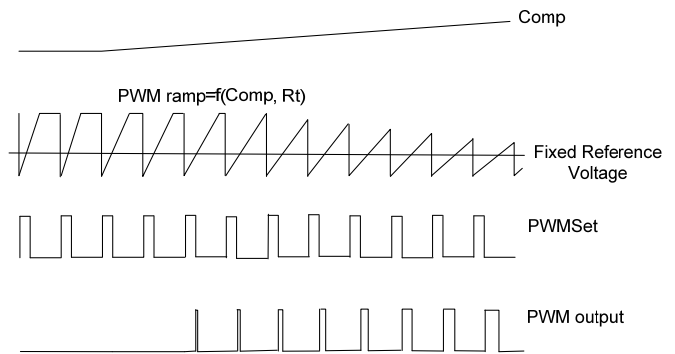
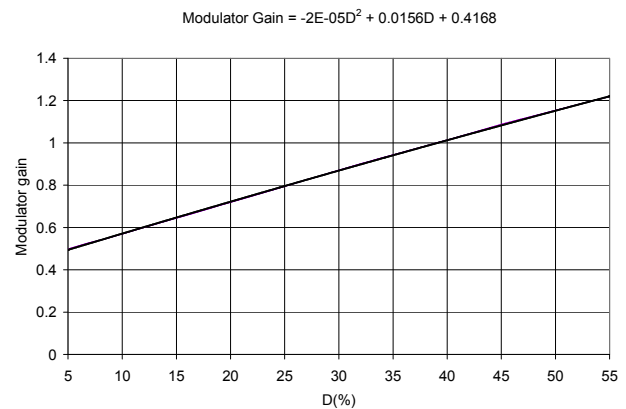

Figure 14: Theoretical waveforms for the new PWM scheme
Figure 15: Modulator gain ( $F_m$ ) v/s Duty Ratio (D%)
Figure 14 shows theoretical waveforms for the PWM ramp and the PWM output in response to a changing Comp voltage. Figure 15 shows the variation of the modulator gain ( $F_m$ ) with the duty cycle (D).